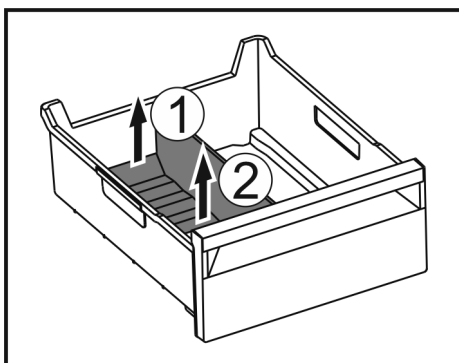

Fig. 164
- ▶ Lift the rear part of the ice compartment divider. Fig. 164 (1)
- ▶ Remove the ice compartment divider upwards. Fig. 164 (2)